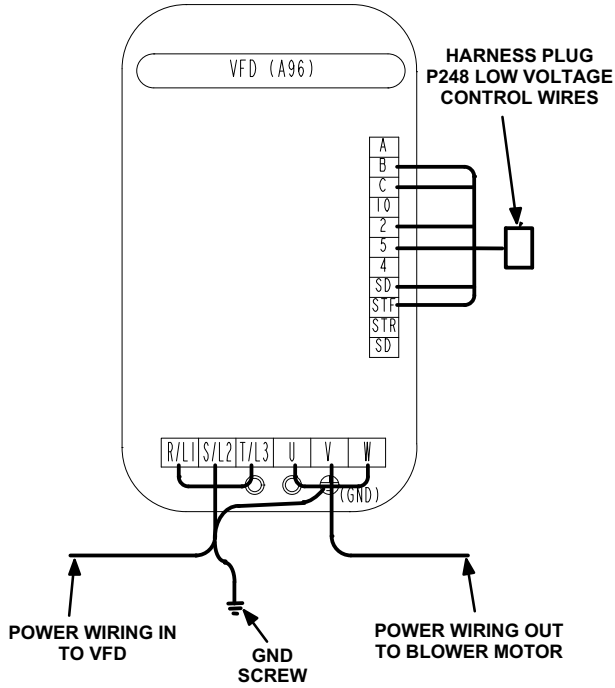

**FIGURE 6**
- Open the lower cover on the VFD to access wire connections. Disconnect the wires from the terminals, making special note of the wire color and stamping that was connected to each terminal. See figures 6 through 10.